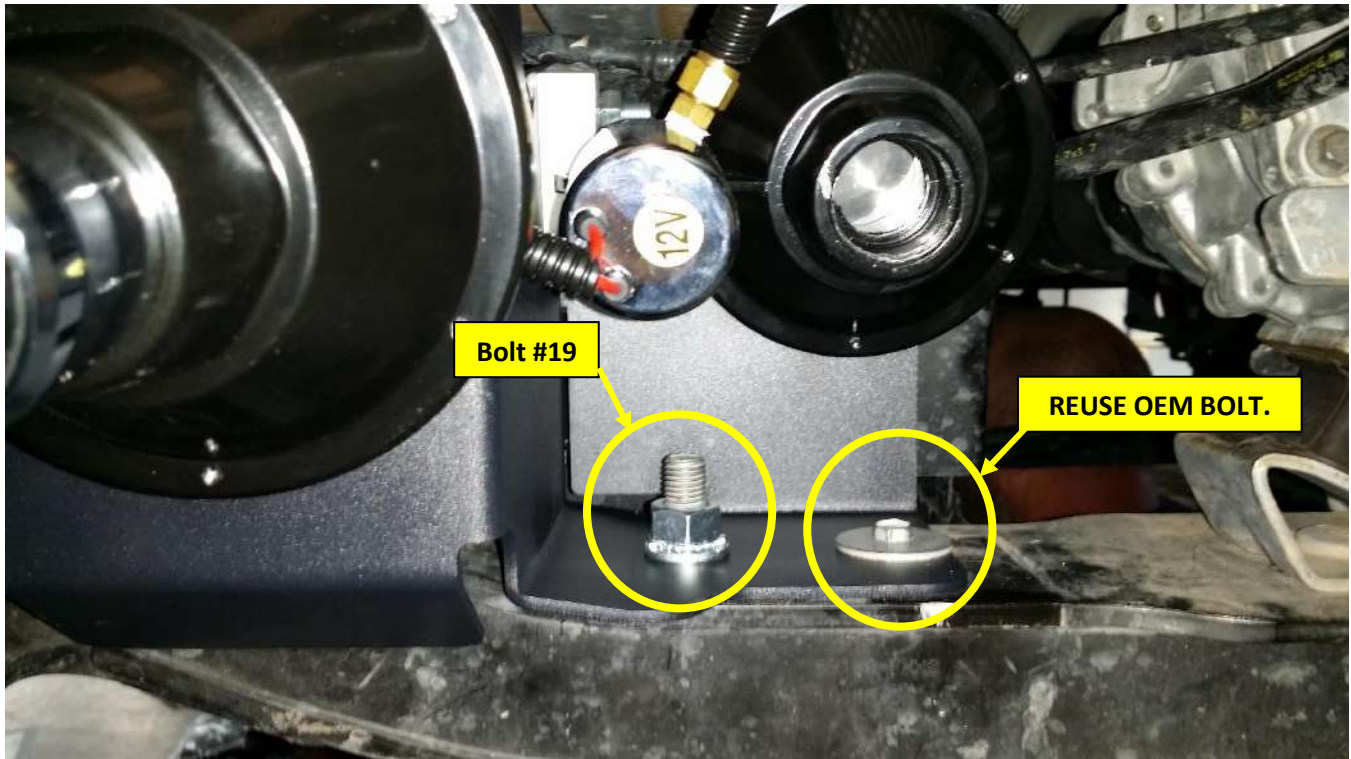

Figure 25 Horn Bracket Crossmember Mounts
- 9.7.8. Reinstall OEM Bolt as well, shown in Figure 25.